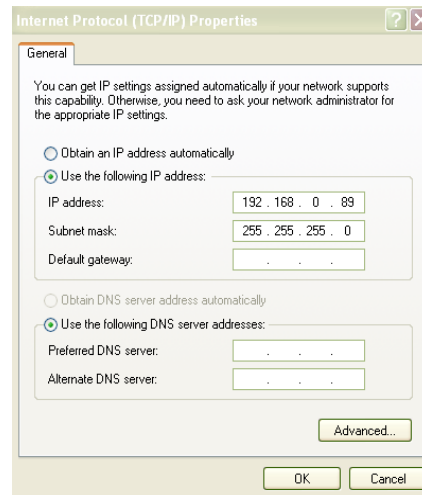

Figure 3.1
7. Select **Use the following IP address** and enter in an IP address in the 192.168.96.1 through 254 range. **NOTE:** This number cannot be the same as the access point or any bridge. Use 255.255.240.0 for the subnet (figure 3.1) click **OK** twice to close out the Internet Protocol/LAN properties. The computer is now ready to send/receive data via from the access point.
- 8.) If **Obtain an IP address automatically** (DHCP) is checked (figure 3.1) you will need to get an open static IP address, subnet mask value, default gateway value and DNS server values before proceeding. Contact your local network administrator.